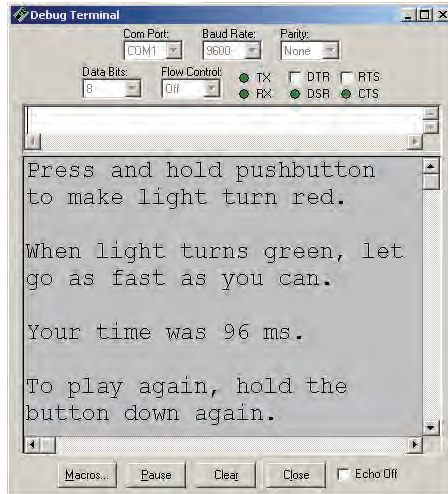

Figure 3-15
- ✓ Follow the prompts on the Debug Terminal (see Figure 3-15).